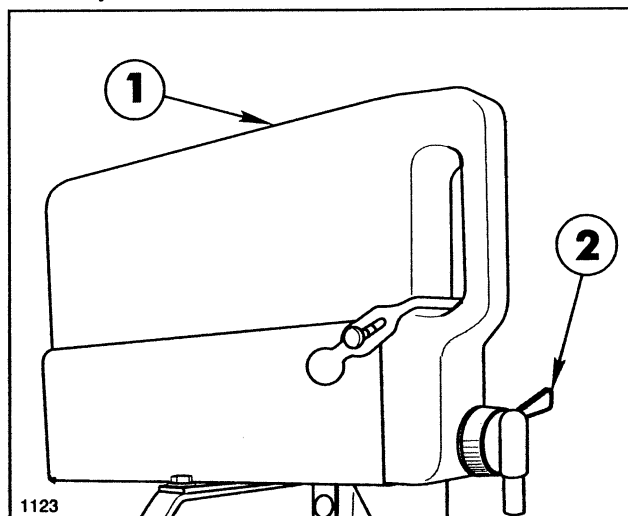

FIG. 4.
1. Turn Tank Spigot to on position. See FIG. 4.